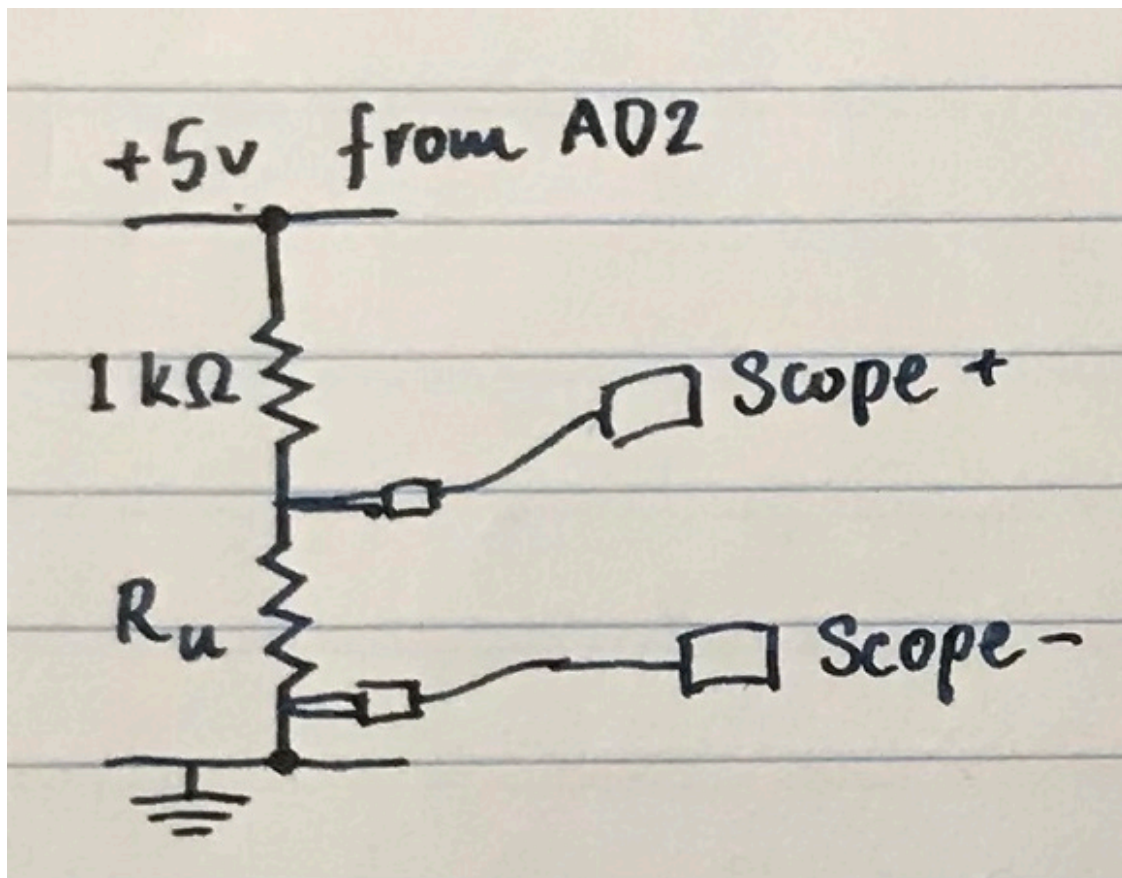
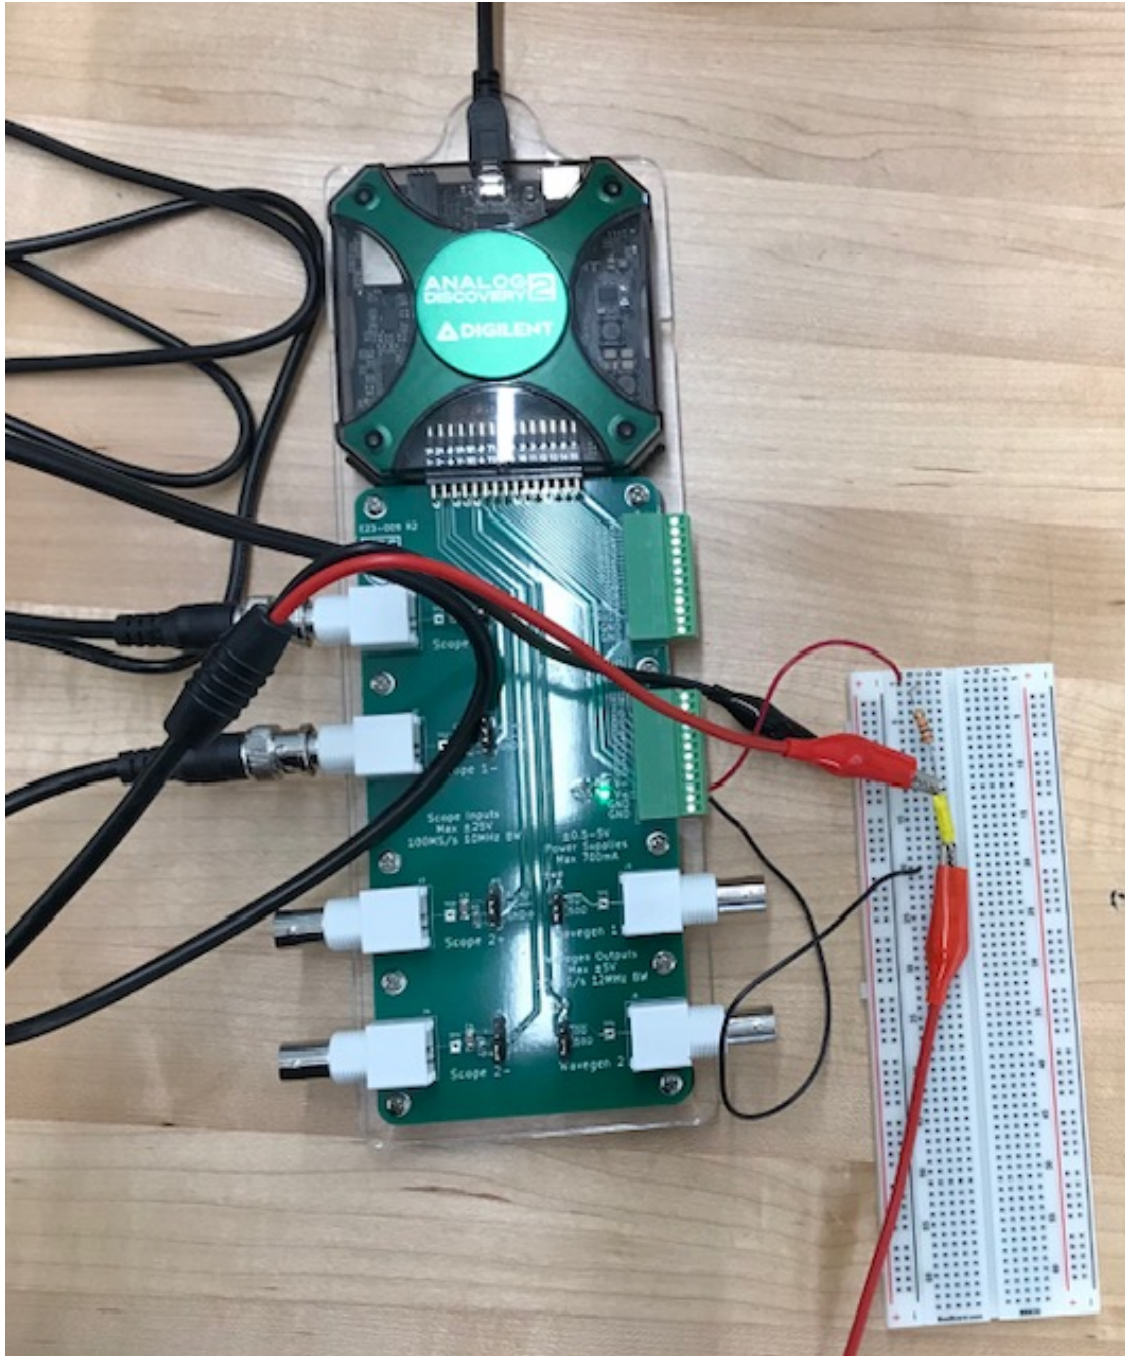

Figure 3: Voltage divider circuit used to find R_U
Figure 4: Setup of voltage divider circuit for R_U (pictured in yellow)
- We will use a voltage divider with R_U and the $1\text{ k}\Omega$ set up like the circuit in Figure 3 and with the setup in Figure 4.
- I powered the circuit with the voltage supplies from the AD2 with the power wire attached to the V_{in} which I set to 5 V using the Supplies feature on WaveForms and the the GND wire connected to end of R_U , as visible in Figure 4.